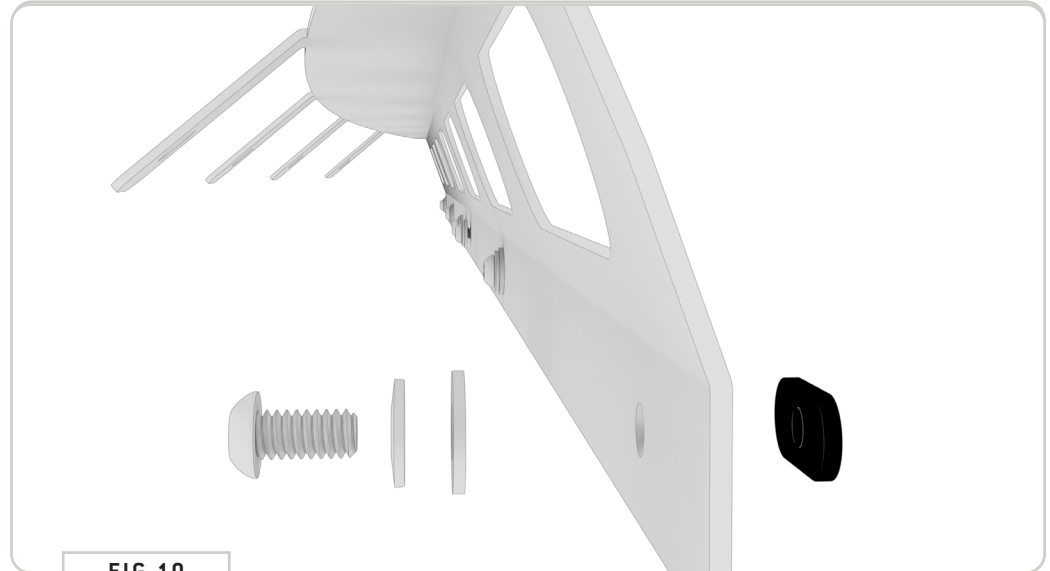

FIG 10
4.1 Crossbar Fairing Bracket: Stack a 1/4-20" x 0.5 Button Head Screw, 1/4" Belleville Lock Washer and 1/4" Flat Washer as shown in FIG 10 and insert into the six available front holes of the Crossbar Fairing Bracket. Loosely assemble using a T-Nut. You'll only want to screw the T-Nuts on a little in order to provide clearance for the next step.